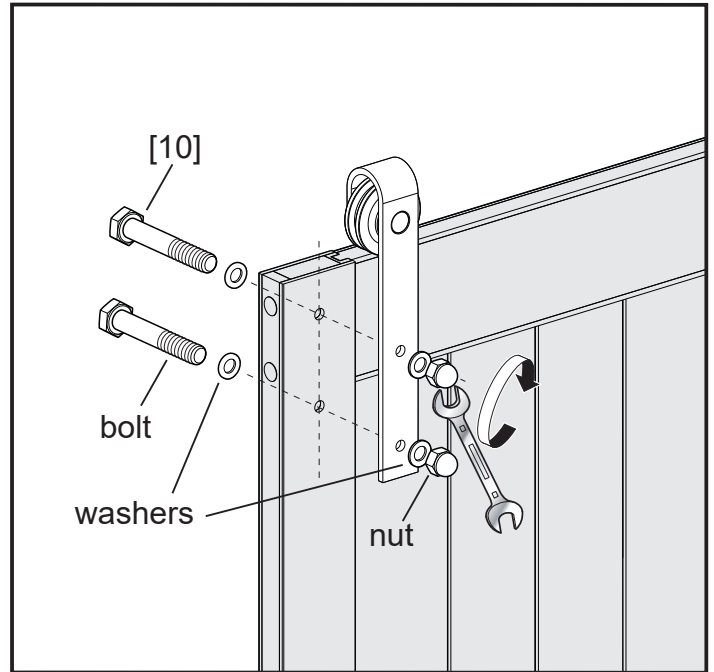

Fig 8
1. Install **Top Mount Rollers [09]** to one side of the door and secure it with **Bolt assembly [10]** using 16mm & 17mm Wrenches as figure shows. (Fig 8)